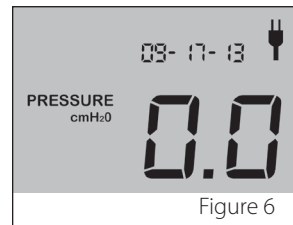

Figure 6
5. After about 10 seconds, the **Z2** will enter standby mode. The display will read 0.0. (Figure 6)